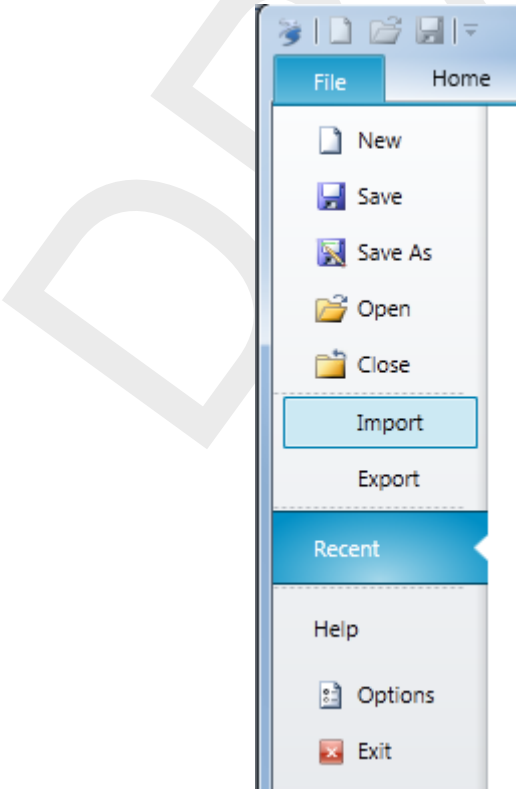

Figure 5.5: Example of the file menu with Import and Export option
- ◇ Select a model in the Project toolwindow, Click "File" in the Ribbon bar and select "Export" (see Figure 5.5)
- ◇ Select a model in the Project toolwindow, Click "File" in the Ribbon bar and select "Import" (see Figure 5.5)